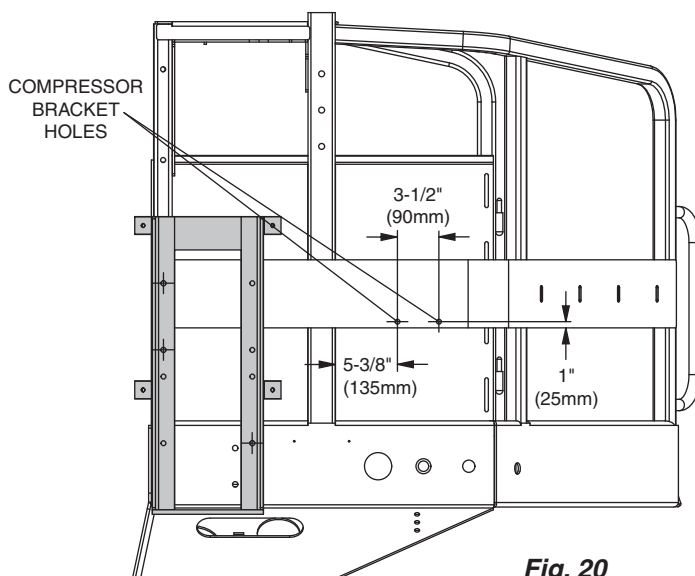

Fig. 20
1. Use the measurements in (**Fig. 20**) to locate and drill two 7/16" dia. holes for mounting the Compressor Box to the inside of the platform.